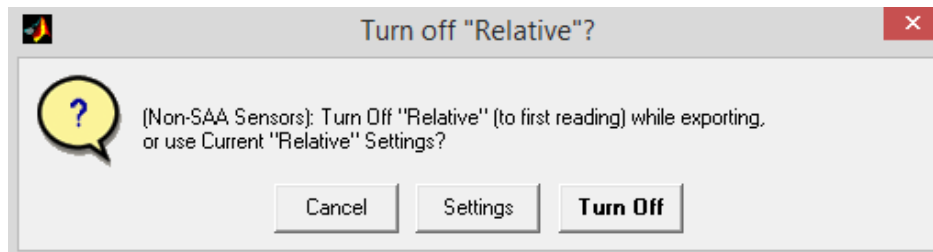

Figure 7.48: Warning message after clicking 'Export data'.
- The following window (see **Figure 7.48**) will open warning the user to turn off 'Relative' (to first reading) or use current 'Relative' settings for the non-SAA sensors.